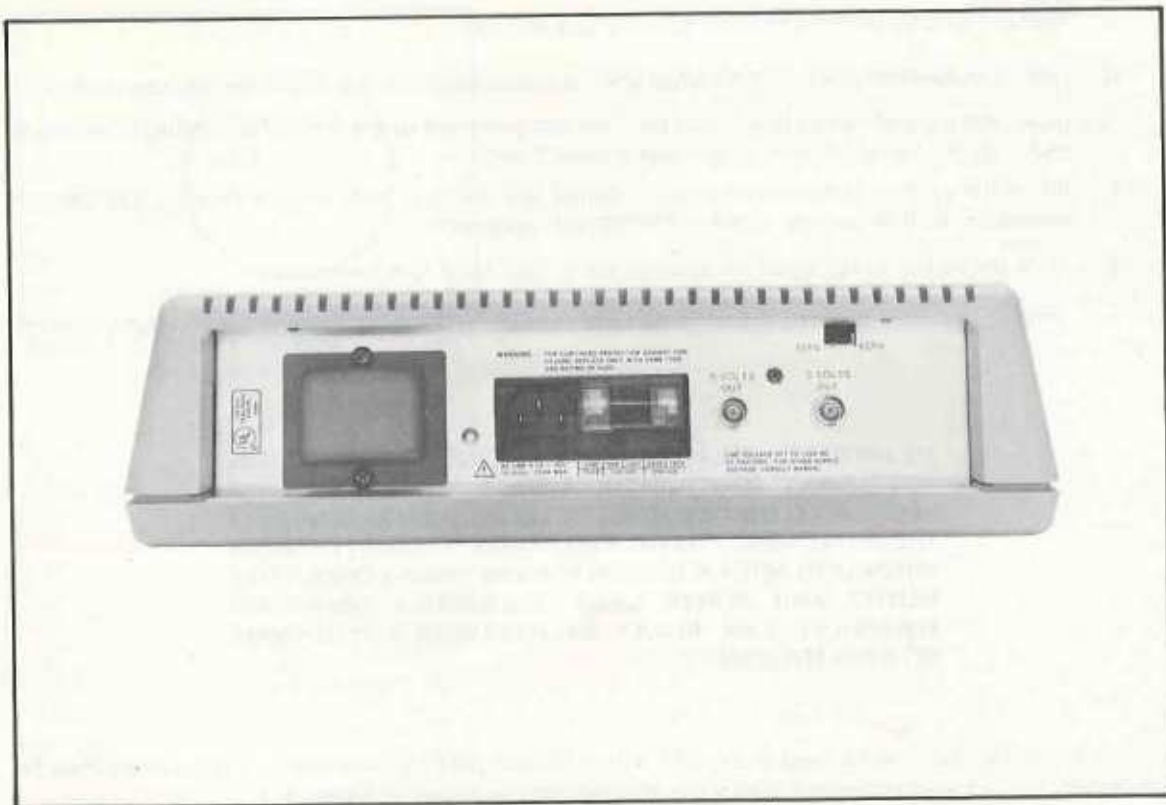

Figure 1-2. View of Rear Panel
**Before connecting this instrument to an ac power line, be sure that the line voltage selector switch on the rear panel is set to proper position as shown in Figure 1-2.**